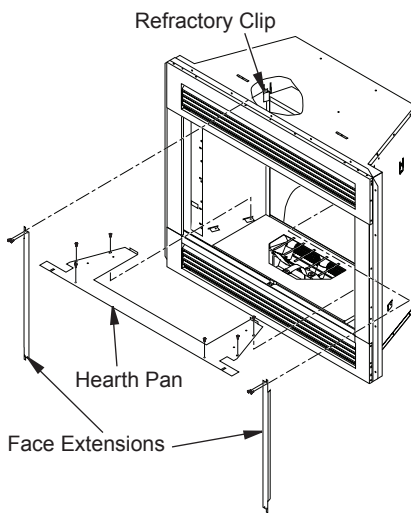

Figure 34 - Removing Hearth Pan and Face Extensions (VE32 Series Only)
3. Remove 4 Phillips screws holding hearth pan to fireplace and 2 screws located at lower frame rail (see Figure 34).
5. Remove 4 Phillips screws holding face extensions at top refractory clips (see Figure 34).